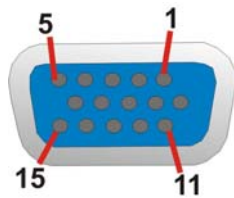

Figure 3-25: VGA Connector
- CN Pinouts:** See Figure 3-25 and Table 3-23